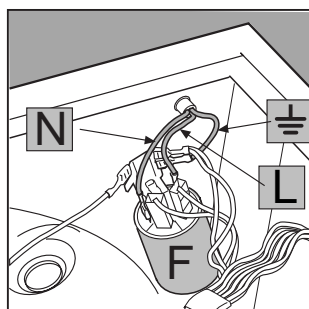

Fig. 4
3. Disconnect the wires from the radio interference suppressor **F** [fig. 4] noting as to their position (**Blue=N** wire; **Brown=L** wire) leaving the earth wire until last \equiv .